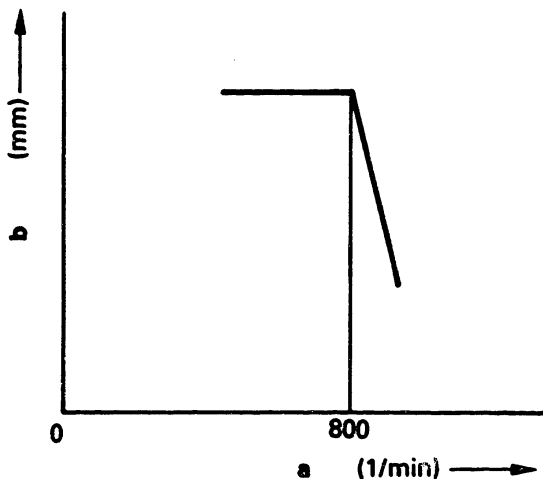

Fig. 70 Torque control stroke
2. Temporarily hold the speed control lever in position so that governor begins to move the control rack in the "fuel-decrease" direction at pump speed of approx. 800 rpm. (Fig. 70)